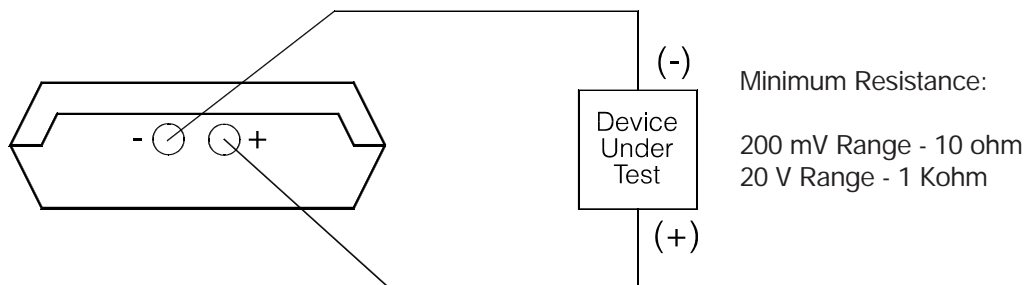

Figure 1 - Voltage Source Mode
1. When operating in the voltage source mode, the PCL432 has the capability to drive loads up to 20 mA as shown in Figure 1.